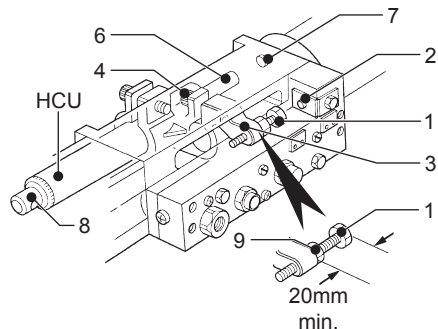

Figure 5
- Use Figure 5 (1) for the final depth adjustment.
- Lock using Figure 5 (1).
- Set the gap between Figure 5 (2) and (1) to equal the tapping depth **PLUS** the distance the tap is above the work piece.